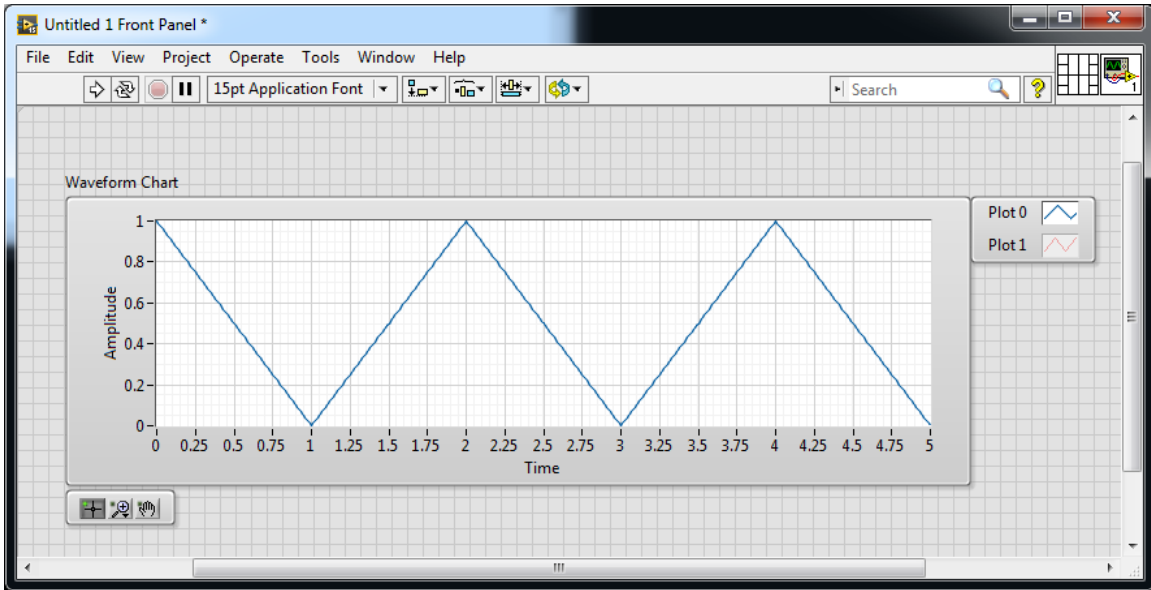
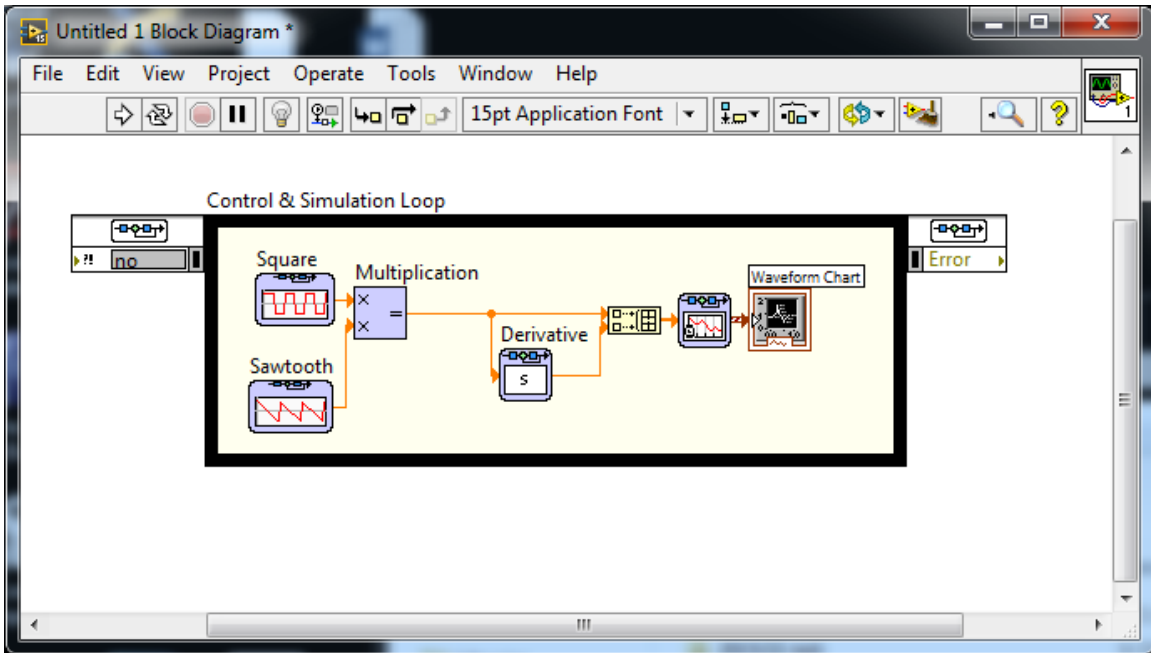

Figure 8 - Front Panel window with the complete differentiator simulation
Figure 9 - Block Diagram window with the complete differentiator simulation
Next, you will build a simulation of a differentiator. The complete simulation will look like Figure 8 and Figure 9.
- Right click in the Block Diagram window to pull up the menu. Select Array then drag a Build Array in to the Control & Simulation loop. To increase the size of the Build Array, hover over the center of the bottom edge until you get a double-sided arrow pointing up and down. Click and drag down until it has two rows like Figure 9.
- Connect the blocks as shown in Figure 9.
- Run the simulation and record the results in your data table. The first triangle wave input should look like the one in Figure 8.